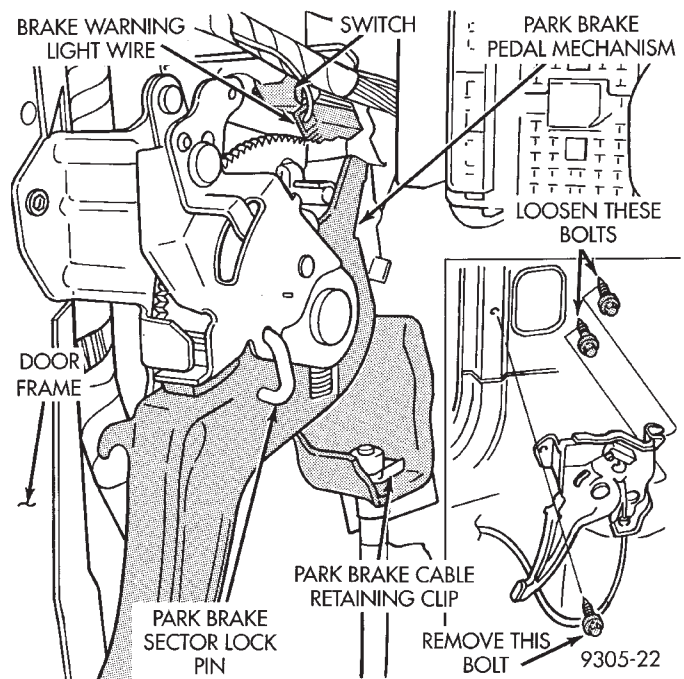
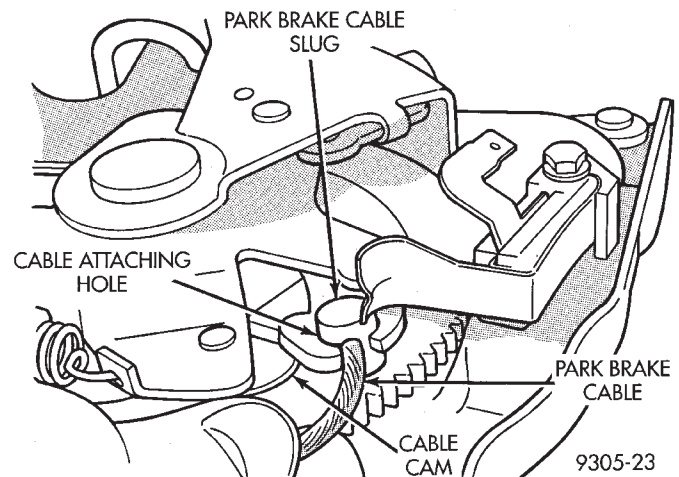

Fig. 6 Park Brake Pedal Mechanism
Fig. 7 Park Brake Cable Removal From Park Brake Mechanism
(1) Remove shift knob from floor shifter (if equipped). Shift knob is removed by removing 3/32 in. allen head set screw located on drivers side of shift knob and then pulling strait up on shift knob.
(2) Remove upper center console cover from vehicle if equipped. Refer to group 23 Body in this service manual for required procedure to remove center console.
(3) Remove the entire lower dash panel assembly from vehicle. Refer to group 8 Electrical in this service manual for required procedure to remove lower dash panel.
(4) Reload parking brake mechanism self adjuster using steps 3, 4, 5 and 6 listed under Reloading Self Adjuster in this section of the service manual.
(5) Remove the brake warning light wire from the park brake mechanism switch (Fig. 6).
(6) Using a screw driver, pry the park brake cable retaining clip (Fig. 6) from the park brake cable.
(7) Remove the 1 bolt holding park brake pedal assembly to door frame (Fig. 6). Loosen but do not remove the 2 bolts attaching park brake pedal mechanism to inner body panel (Fig. 6).
(8) Remove park brake pedal mechanism and cable as an assembly from body of vehicle.
(9) After park brake pedal assembly is removed from vehicle body. Rotate park brake cable to align cable with notch in cable attaching hole on park brake pedal mechanism (Fig. 7). Lift lead slug of park brake cable, out of retaining hole in park brake mechanism, then remove park brake cable from park brake mechanism.
(1) Install park brake cable assembly, through cable mounting in park brake pedal mechanism.
(2) Align park brake cable slug with attaching hole on park brake assembly (Fig. 7). Install park brake cable into cable attaching hole in park brake assembly, and rotate cable into place. Be sure cable is properly seated in the cam surface track in the foot lever assembly (Fig. 7).
(6) Ensure that park brake cable is properly routed in cam surface track of park brake pedal assembly (Fig. 7). Using a pair of pliers, firmly grasp lock pin installed in park brake mechanism. Remove lock pin from park brake pedal mechanism, using a firm and rapid pull. When locking pin is removed from park brake pedal mechanism, the park brake mechanism and park brake cables will automatically adjust. **See parking brake adjustment procedure in this section of the service manual for complete parking brake adjustment procedure.**
(7) Install lower dash panel assembly in vehicle. Refer to group 8 Electrical in this service manual for required procedure for installation of lower dash panel assembly.